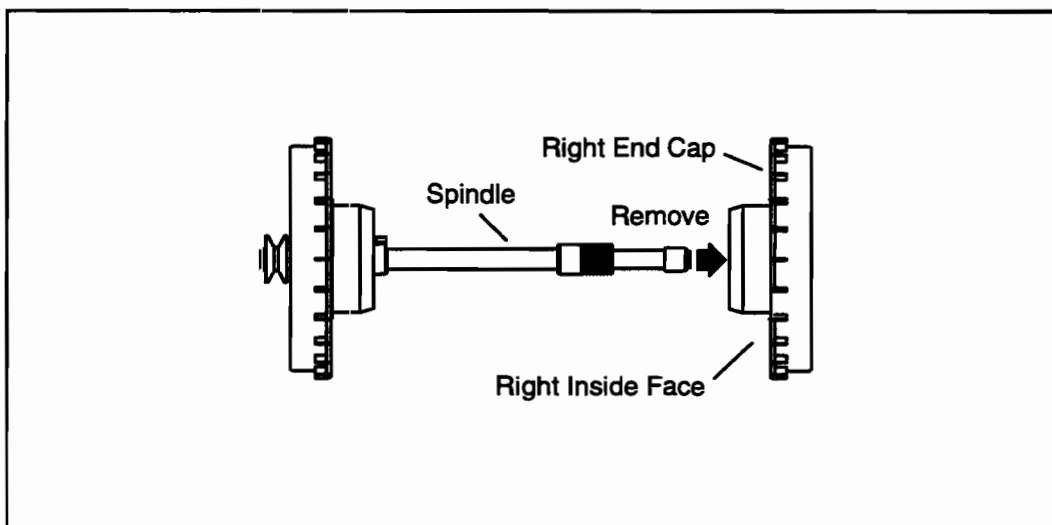

Figure 3-21. Spool End Cap Removal
5. Remove the right End Cap of the spool by unscrewing it. See Figure 3-21. (The spool was removed from the print engine during the procedure titled PRINT ENGINE INSTALLATION)